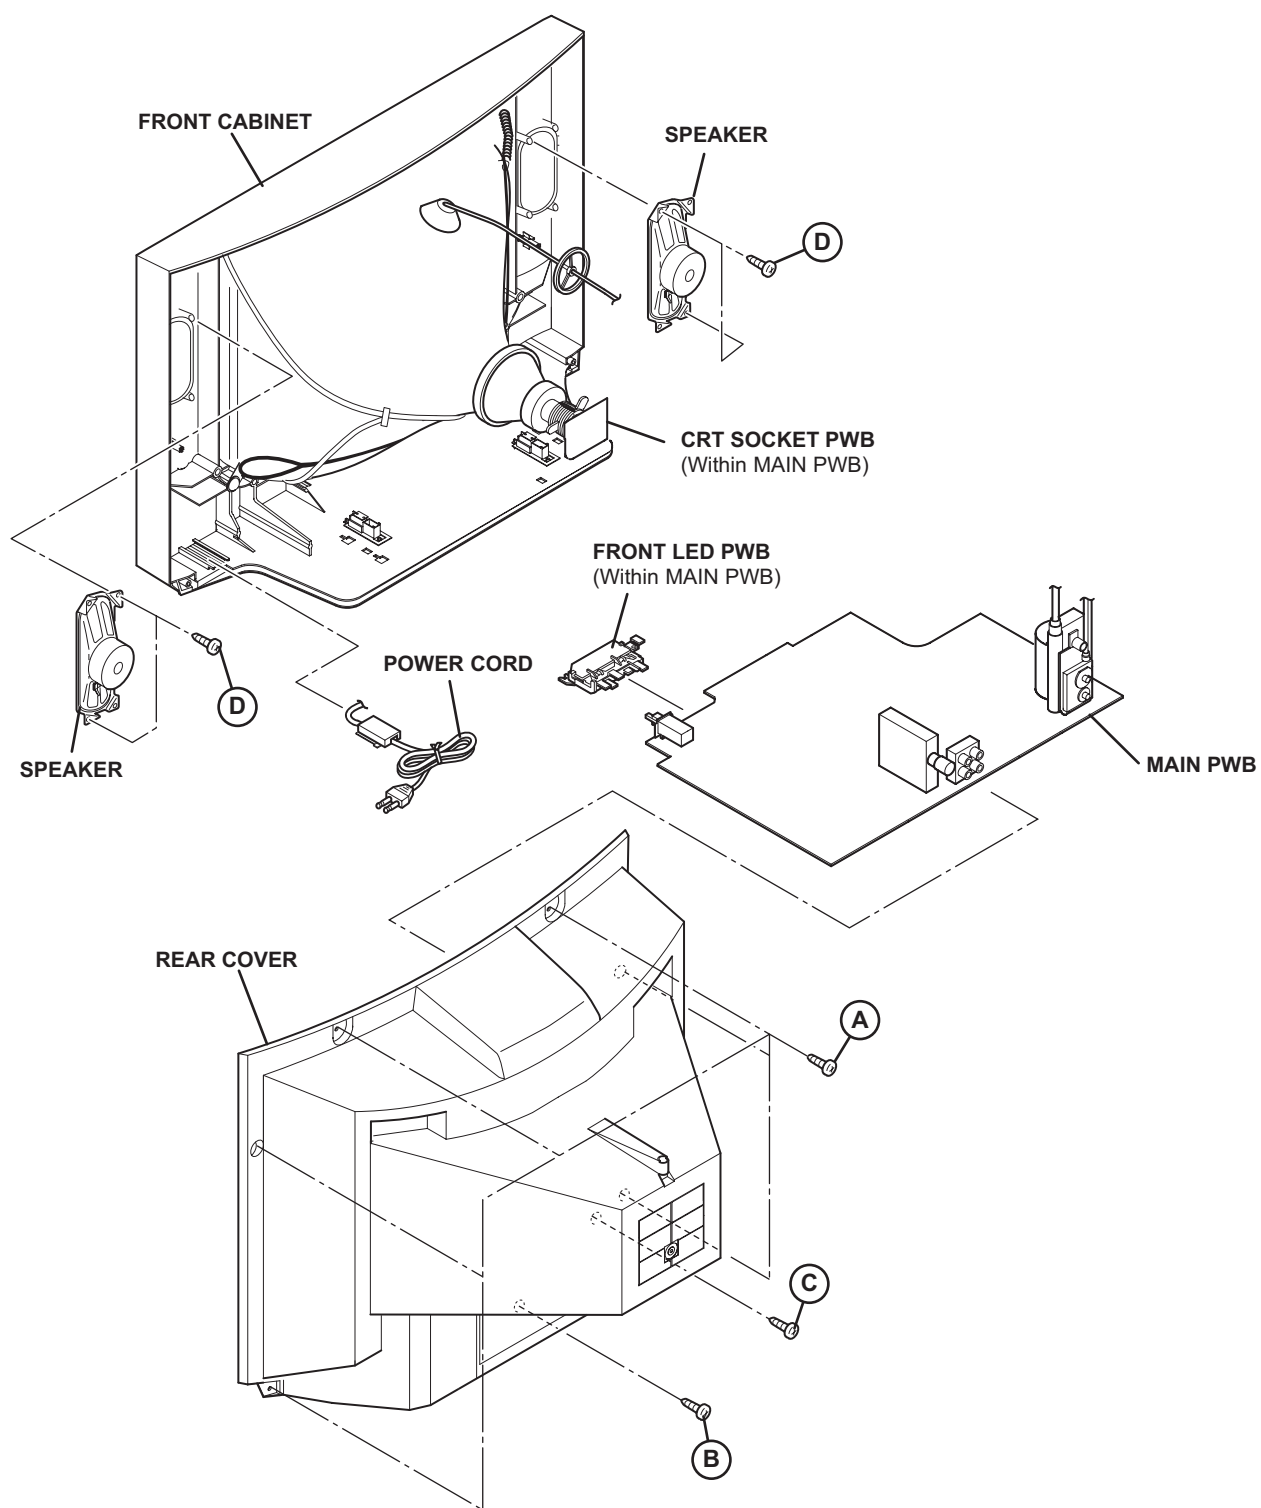

Fig.1
- (1) Remove the 2 screws **[D]** as shown in Fig.1.
- (2) Follow the same steps when removing the other hand SPEAKER.